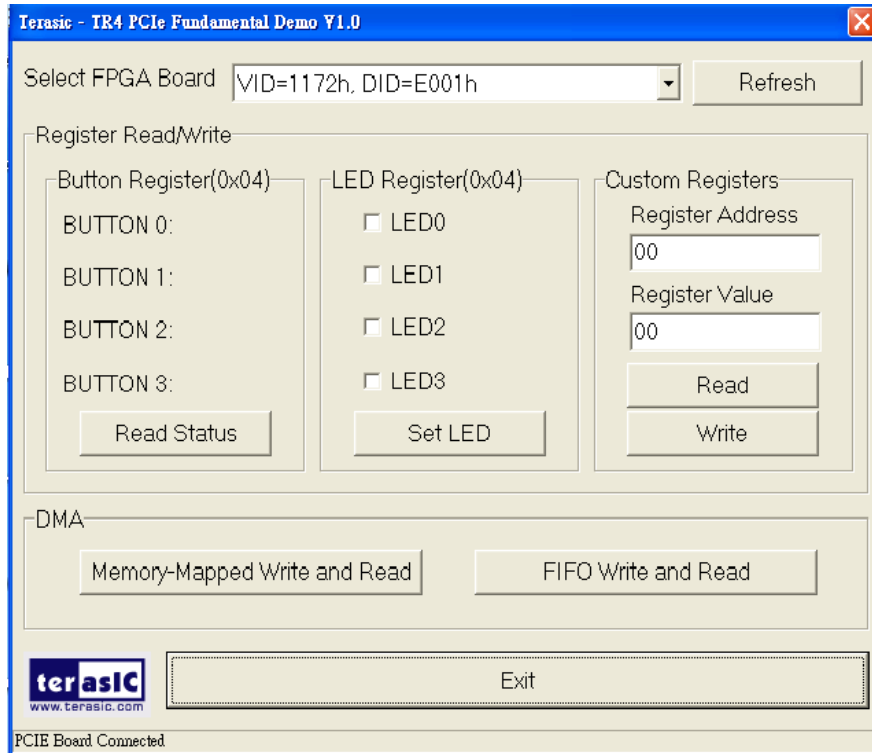

Figure 4-3 PCIe Fundamental Demo GUI
- Launch the demo program PCIe_Fundamental_Demo.exe shown in **Figure 4-3**.